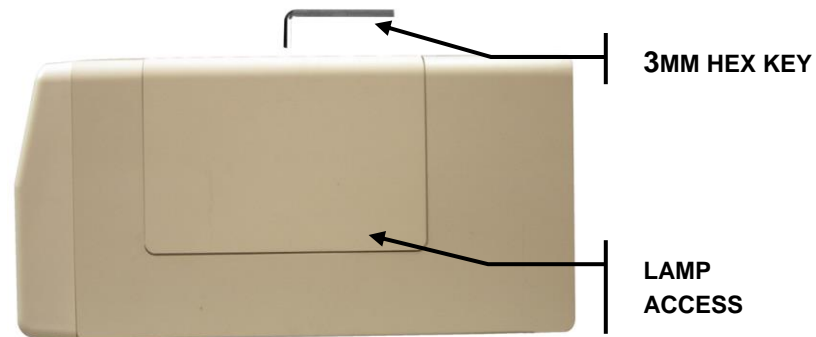

Figure 3 Lamp Access Panel
- 4.1.10 Replace the lamp access panel and tighten the fastening screw. Reference Figure 3.